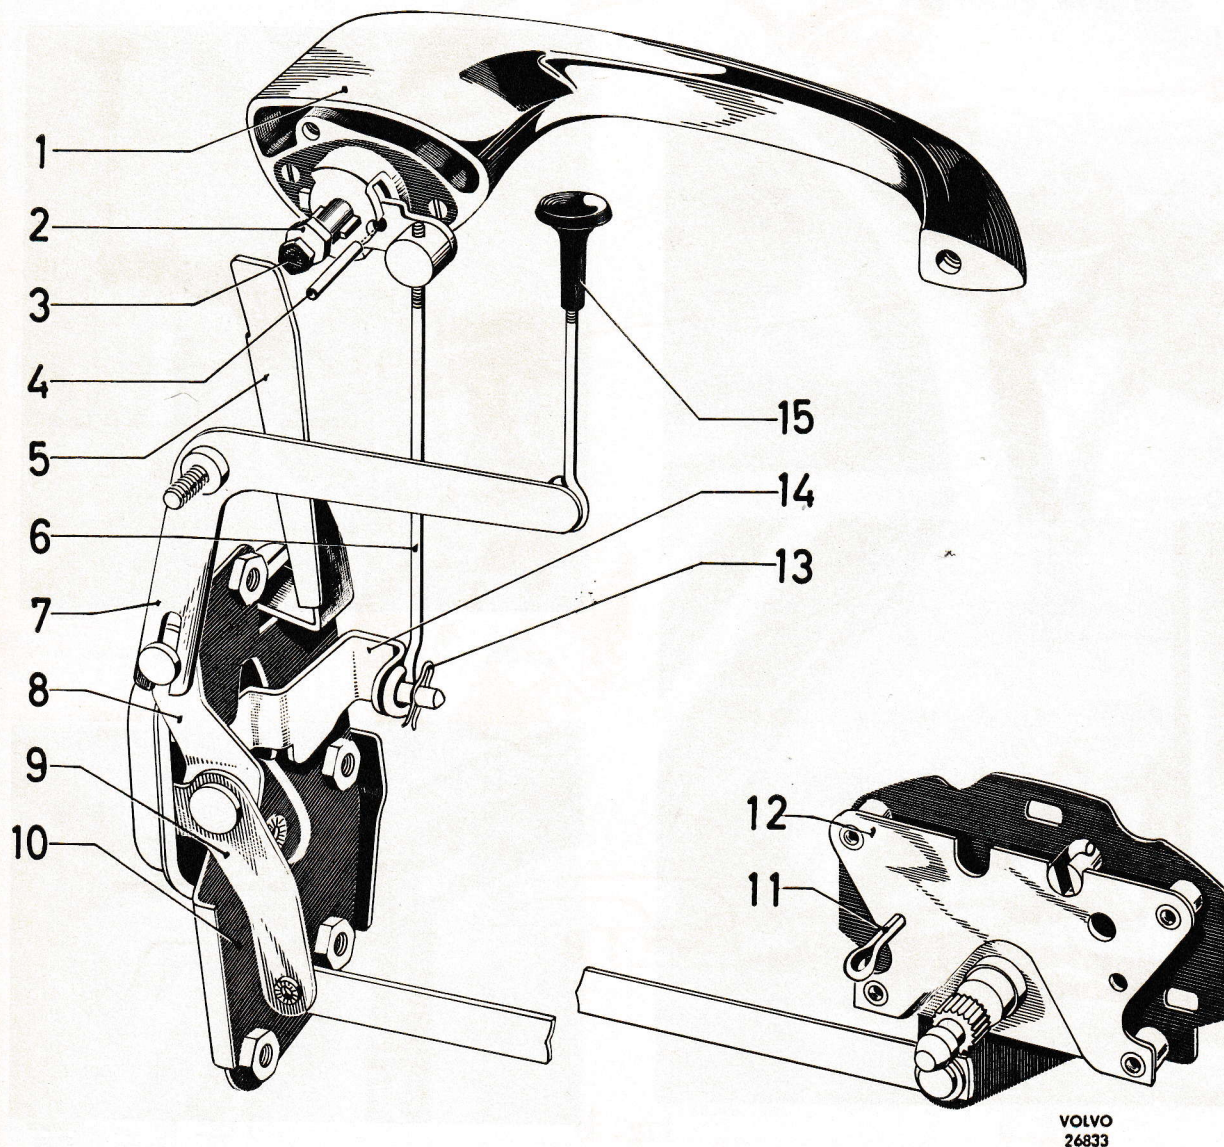

Fig. 25. Adjusting the lock, front door.
1. Fit the lock (10, Fig. 25) with the remote control (12) into the door without tightening the screws.
1. Check that the measurement B (fig. b, Fig. 27) = 15 ± 1 mm ($0.59 \pm 0.04''$). Adjust if necessary. Tighten the locknut (2) on the bolt (3, Fig. 25).
2. Fit the outer handle (1) with link (6).
3. Connect the link (6) to the lever (14). When doing this, one of the three holes in the link must be selected so that the recess and hole in the outer handle coincide. This can be checked by inserting the pin (4) into the hole in the outer handle as shown in the figure. The pin should go right in when the press button (15) is depressed, that is to say, the lever (7) is depressed and the lever (8) moved back against the lock.
1. Check that the measurement B (fig. b, Fig. 27) = 15 ± 1 mm ($0.59 \pm 0.04''$). Adjust if necessary. Tighten the locknut (2) on the bolt (3), Fig. 25.
3. Connect the link (6) to the lever (14). The lever in the handle must be adjusted in such a position that a pin (4) (3 mm = $0.12''$) can be inserted into the hole in the handle. Adjustment is carried out by screwing the link up or down so that the eye (6) of the link coincides with the lever (14) on the lock.